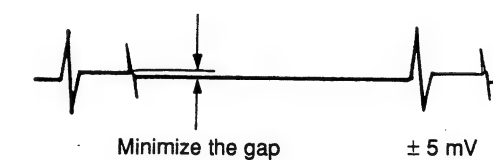

Fig. 2-3.
3. Connect an oscilloscope to Pin ⑮ of IC701 of the BK board.
4. As shown in Fig. 2-3, adjust the BRT CENTER data so that the waveform becomes flat.